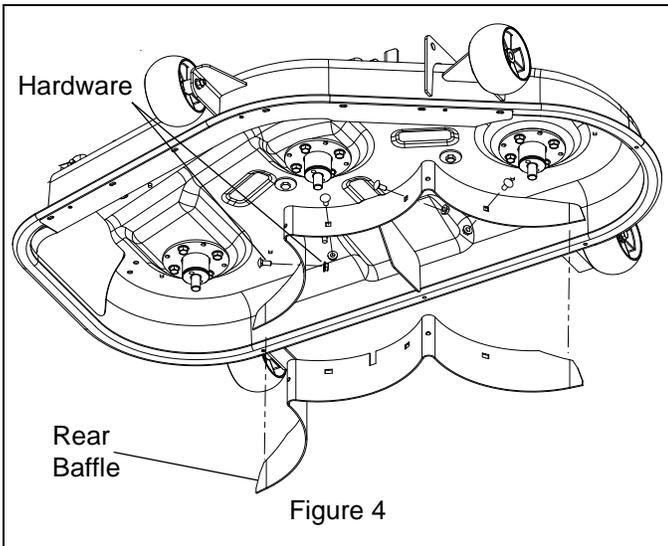

Figure 4
- Remove four round head square neck bolts and hex nuts retaining rear baffle and remove baffle. Retain baffle and hardware for future use with discharge chute or bagger. See Figure 4.